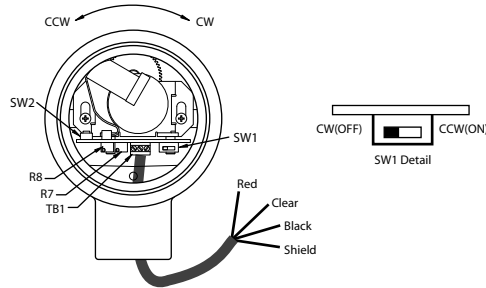

Figure 4:
- See Figure 4 below for related information.
This provides access to the edge of the SG1000C's printed circuit board, namely the direction switch SW1 (the slide switch), and the calibration switch SW2 (the push-button switch). See Figure 4 for locations of these switches.
- If the encoder shaft turns in the CW direction as the process's shaft is turned from the 0° home to the 359° full-turn position, then set SW1 to the OFF position (i.e., toward the center of the PC board). See Figure 4.
- If the encoder shaft turns in the CCW direction as the process's shaft is turned from the 0° home to the 359° full-turn position, then set SW1 to the ON position (i.e., toward the edge of the PC board). See Figure 4.
- D) Assuming conditions (A), (B), and (C) are proper, and your SG1000C still seems to behave improperly, then try re-calibrating again, paying close attention to the six calibration steps.
- 2) If you have gone through troubleshooting hints (1A), (1B), (1C), and (1D), and if your SG1000C seems to otherwise respond properly, from 0° to 359° of rotation, with the only exception being that strange values other than 4 mA and 20 mA are output for the positions (e.g., 3 mA at 0° home position and 23 mA at the 359° full-turn position), then possibly the R7 and R8 factory potentiometer settings have been tampered with. See Figure 4 for location of these pots.